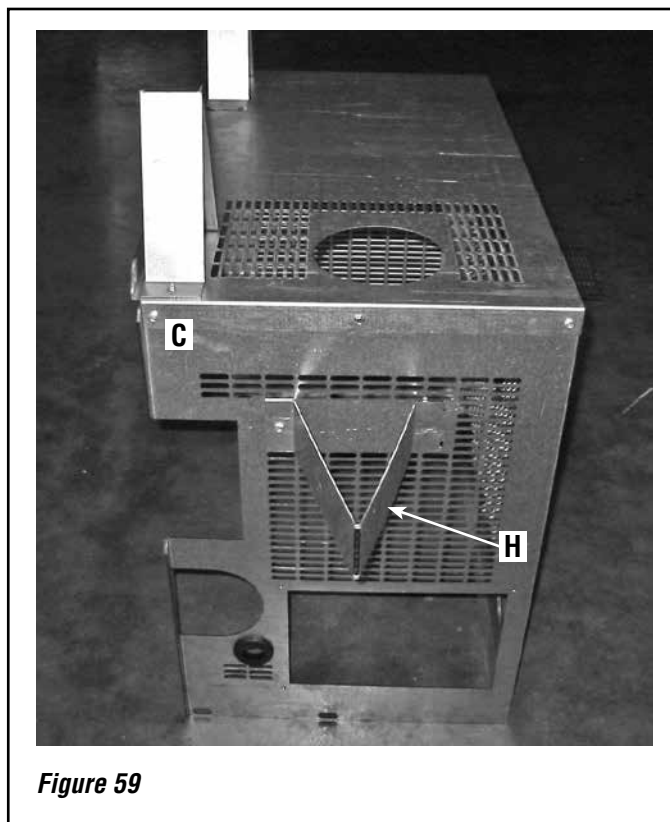

Figure 59
6. Install the side stand-off brackets (H) and rear stand-off bracket (I) in the same manner explained above. **Figure 59** below shows these stand-offs installed.